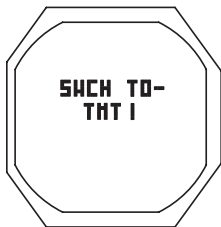

Fig. 113 - TMT 1 SWCH TO
**TMT 1 Switch To**, information includes (Fig. 113):